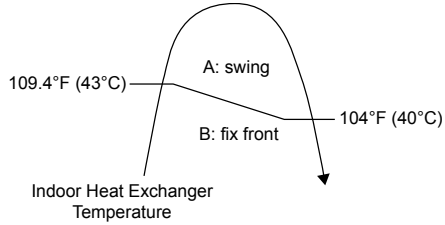

Figure 1
- Automatic horizontal airflow direction can be set using remote control; the vane swings left and right within the angles as stated below. For heating mode operation, the angle of the vane depends on the indoor heat exchanger temperature as Figure 1 below. It does not swing during fan motor stop.